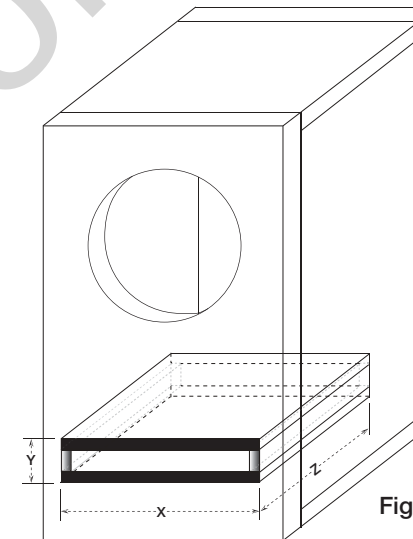

Figure 5
All the cubic feet (L) measurements in this manual include the displacement of the woofer. For the vented enclosures the displacement of the port must be calculated and added to the internal volume of the final design. Use the outer dimensions of the port and multiply "X x Y x Z", convert to cubic feet, for example the CVT12 vented compact design's external port dimensions are, using 3/4" (1.9cm) MDF: [(12.5" + 1.5" total MDF wall thickness) x (2.5" + 1.5" total MDF wall thickness) x 20"] x (1 ft³ / 1728 in³) = .65 ft³, and add this number to the internal volume of the enclosure, CVT12's 1.75 ft³ + .65 ft³ = 2.4 ft³. See Figure 5. Due to the necessary length of these ports, you may want to fold the port along the bottom and back walls. It will be impractical to use round ports for these designs.